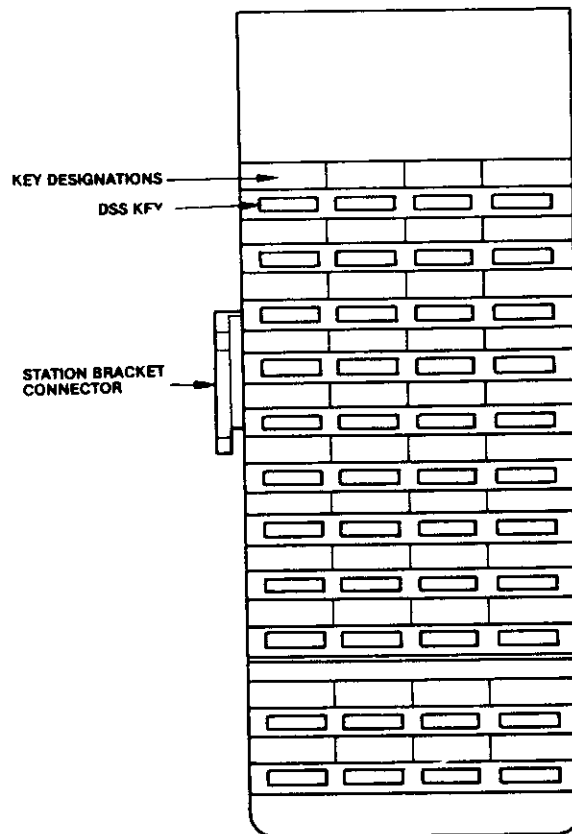

FIGURE 2-12
- a. The ZT-32C Direct Station Selection Unit, illustrated in FIGURE 2-12, is an optional system control unit that is used at the attendant (main answer position) in the system. The ZT-32C offers an efficient method for answering and distribution of CO/PBX calls to extension, as well as being utilized for program features/functions associated with the ZT-D system stations.
- The ZT-32C, features thirty-two (32) individual station keys with associated LED lamp indicators, as well as eight (8) feature/function keys.
- There are no limitations to the number of direct station selection units. However, each DSS unit equipped on the system will reduce system extension capacity by one (1).
- An electronic key telephone may be equipped with two (2) DSS units for total system extension capacity (64 extensions).